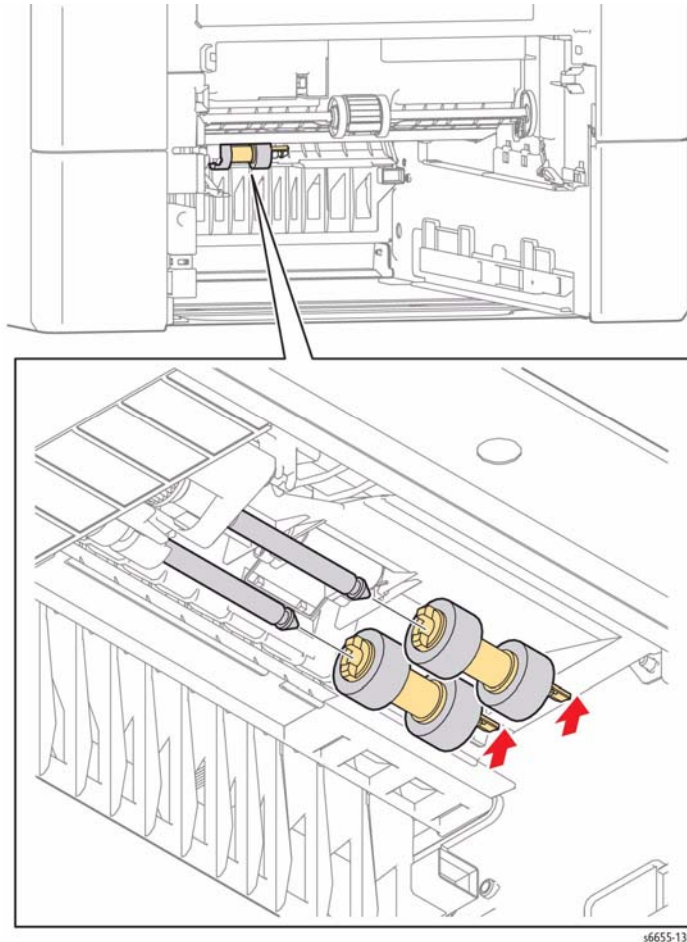

Figure 1 Remove the Feed Roller Assembly
3. Refer to Figure 1 to locate and release the latch that holds the Feed Roller Assembly on the shaft, and slide the roller to the right off the shaft.